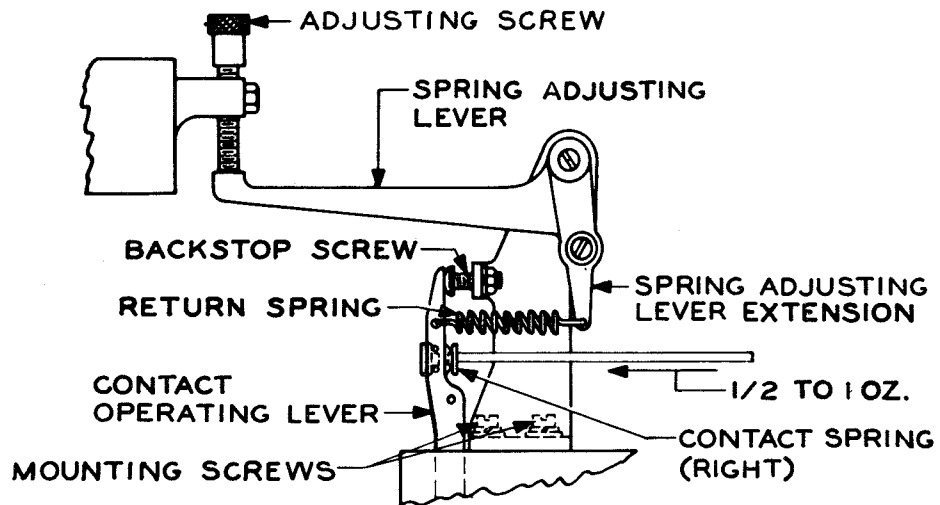

Figure 11
To Adjust the punch-contact operating-lever backstop screw, loosen the mounting screws, position the key-pressure adjusting mechanism, and tighten the mounting screws. See Figure 11.
2.35 Punch-contact Operating-lever Return Spring: It should require a push as specified in the figure to just start the contact-operating lever moving away from the backstop screw when the right contact spring is allowed to bear freely against the fiber on the contact-operating lever. See Figure 11.